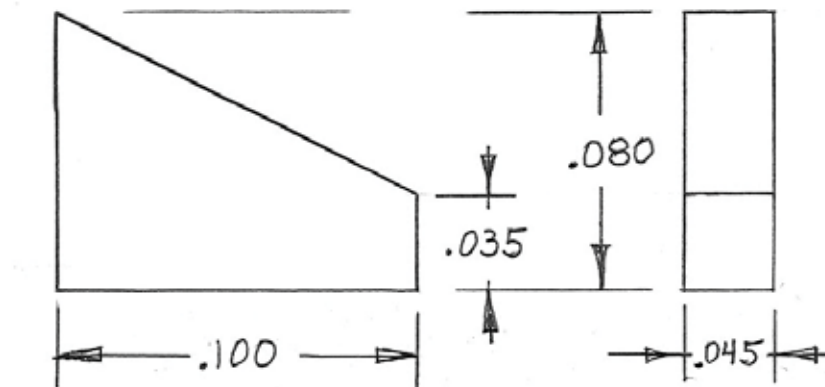

Figure 14: Foam Standoff
3. Obtain a sheet of C-stock RH-5, low loss structural foam from Cuming Microwave Corporation (Phone: 508-584-2309 / www.cumingcorp.com). Cut a small slice with a thickness of 0.045 inches. Using a sharp razor blade, form the mounting structure shown in Figure 14 to obtain a coil mounting angle of, in this instance, approximately 36 degrees when used with the larger (0.182" long) coils